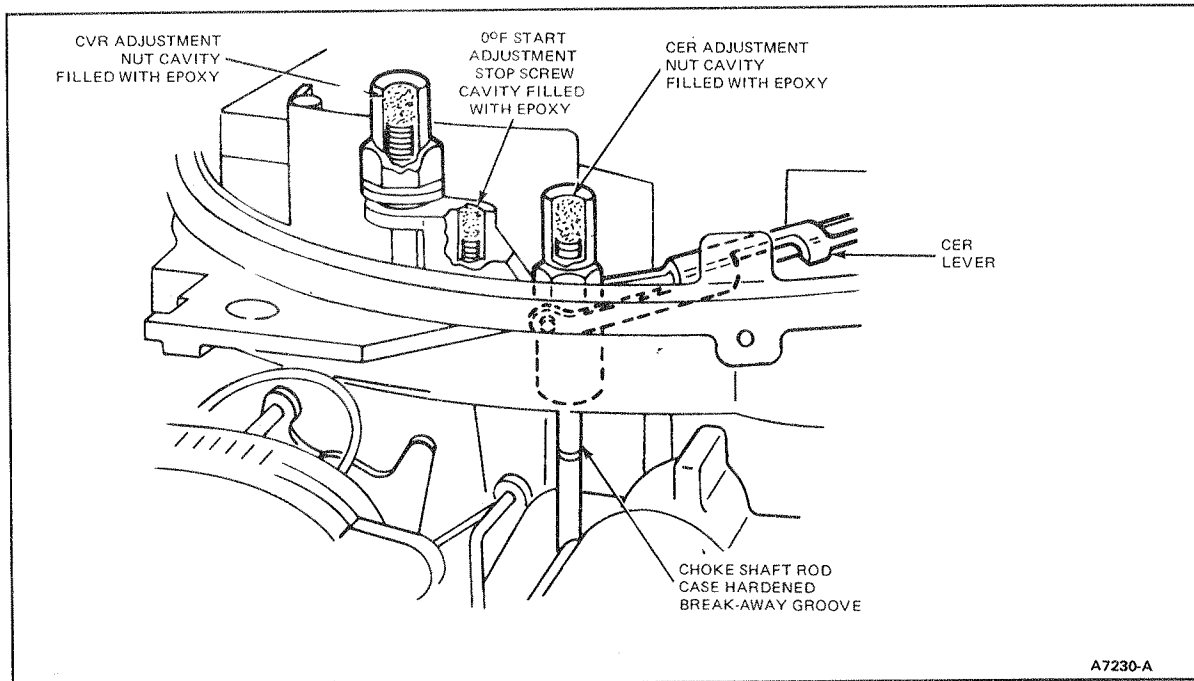

Figure 4 CER/CVR Tamper Resistant Installation
**NOTE: The rod has an undercut designed to break, if breakage does occur, a new rod assembly must be installed. The upper body must be loosened to position the rod through the opening. Replace the upper body gasket as necessary (Fig. 4).**